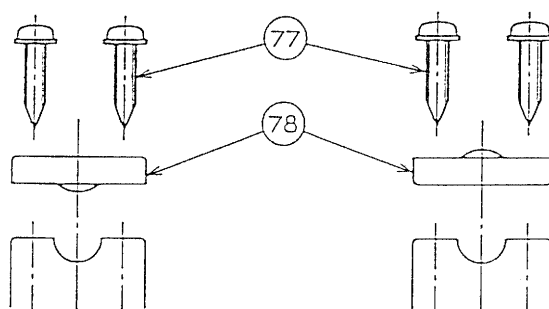

Fig. 22
*Be careful of the direction of the Cord Clip [78]. (Fig. 22)